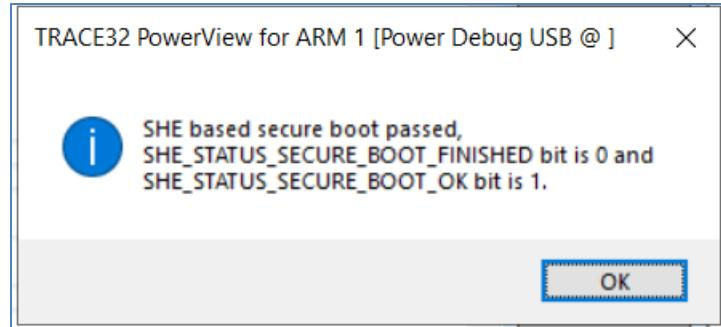

Figure 112. SHE secure boot status
- Once completed, user is notified of the same with message as shown in Figure 112.